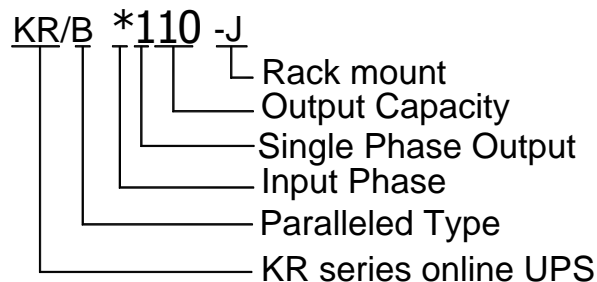

Fig.1-2 KR-J 10KVA model meaning
2. Model Meaning of UPS KR-J 10KVA is shown in Fig. 1-2.
As information shown in Fig.1-2, "KR" means the product is high-frequency UPS of Kehua KR Series. "1110" means that it is 1 phase in and 1 phase out, the output capacity is 10KVA. "-J" means that the product is a rack mount type.